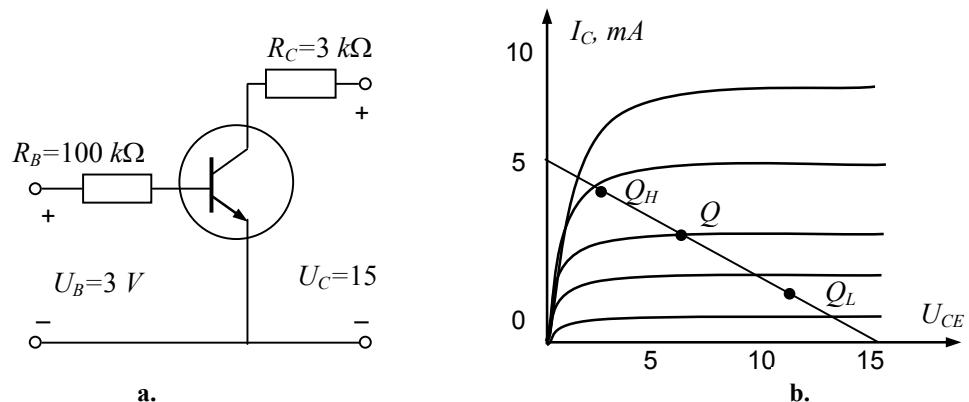

Fig. 1.26
**Example.** Fig. 1.26 is an example of a base-biased circuit. In the case of a short circuit across the collector-emitter terminals, the saturation current is  $15 \text{ V} / 3 \text{ k}\Omega = 5 \text{ mA}$ . In the case when collector-emitter terminals are open, the cutoff voltage is  $15 \text{ V}$ . The load line shows the saturation current and cutoff voltage. The base current is approximately equal  $I_B \approx 3 \text{ V} / 100 \text{ k}\Omega = 30 \mu\text{A}$ . Let the current gain of the transistor is  $\beta = 100$ . Then the collector current is  $I_C = \beta \times I_B = 100 \times 30 \mu\text{A} = 3 \text{ mA}$ . This current flowing through  $3 \text{ k}\Omega$  produces a voltage of  $9 \text{ V}$  across the collector resistor. Here, voltage across the transistor is calculated as follows:  $U_{CE} = U_C - U_{RC} = 15 - 9 = 6 \text{ V}$ . Plotting  $3 \text{ mA}$  and  $6 \text{ V}$  gives the operating point  $Q$  shown on the load line of Fig. 1.26. If the current gain varies from 50 to 150, for example, the base current remains the same because the current gain has no effect on it. Plotting the new values gives the low point  $Q_L$  and the high point  $Q_H$  shown in Fig. 1.26.